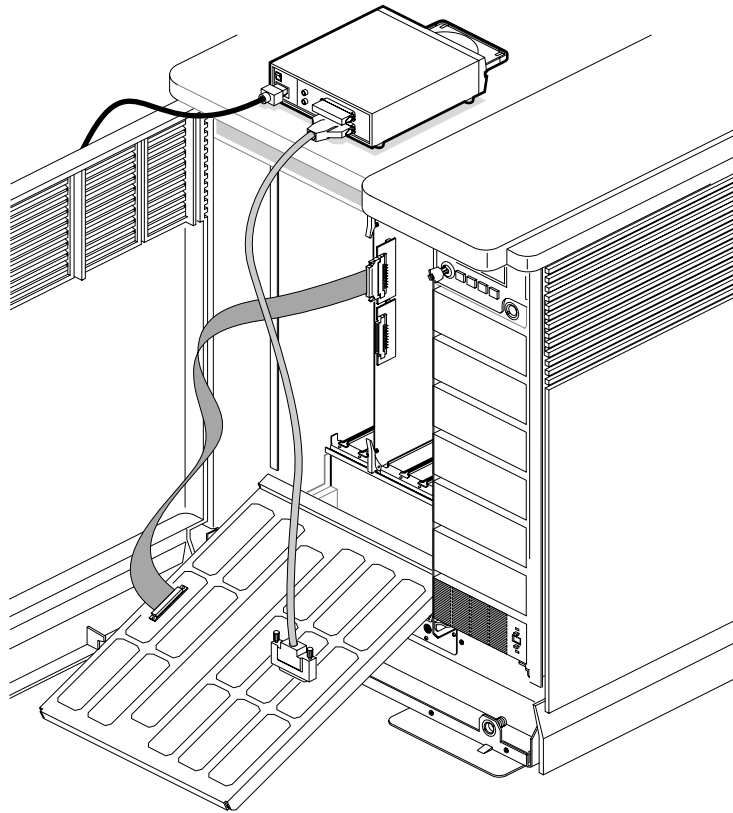

Figure A-3 Cabling the IO4 Board for an External CD-ROM Drive (Deskside)
11. Attach the edge connector on the end of the newly installed ribbon cable to the single-ended SCSI connector on the IO4 board. See Figure A-3.